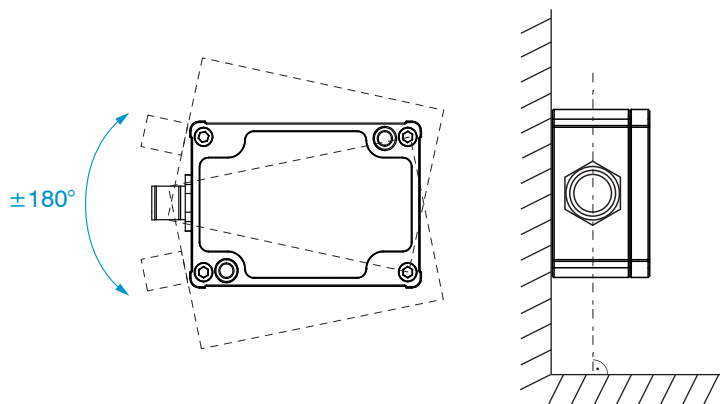

Fig. 2 Zero position (angle value 0°); measuring angle $\pm 180^\circ$
- i** For precise measurements, position the sensor without tilting, see Fig. 2.